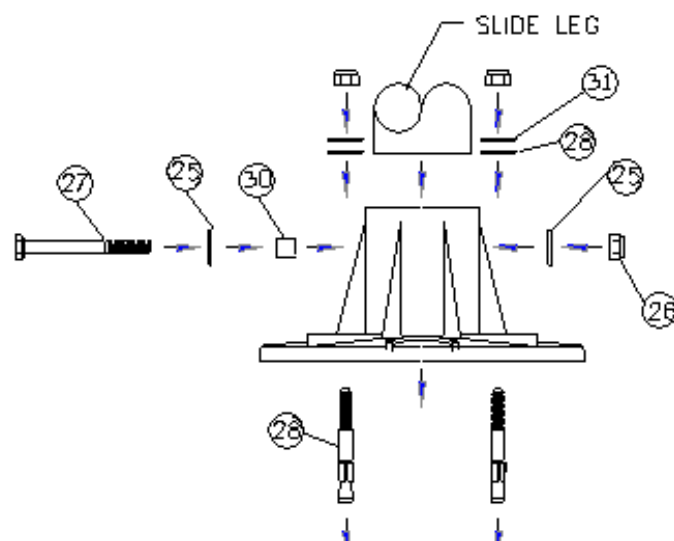

Figure 25
- 3) Using the four holes on each flange as a template (see Figure 25 below), drill four 5/16" holes per flange 1-7/8" deep. CAUTION: Do not drill holes larger than 5/16". Maintain drill hole straight and perpendicular for proper holding strength of anchor stud.
8) Drill a 1/4" diameter hole into the slide leg through the 3/8" diameter hole in the flange. Insert the (#30) 3/8" O.D. Aluminum Bushing into the hole in the deck flange and push in until it contacts the slide leg. Now insert the (#27) 1/4"-20UNC x 2-3/4" Hex Head Cap Screws and (#25) 1/4" x 5/8" Flat Washers through the bushing and in about a 1/2" into the hole in the slide leg. With the cap screw in position, drill a 1/4" hole into the slide leg through the 5/16" diameter hole in the opposite side of the deck flange. Take care not to run the drill bit into the 1/4" bolt. Push the cap screw completely through the slide leg. Install the (#25) 1/4" x 5/8" Flat Washers and (#26) 1/4"-20UNC Hex Lock Nuts (see Figure 25).